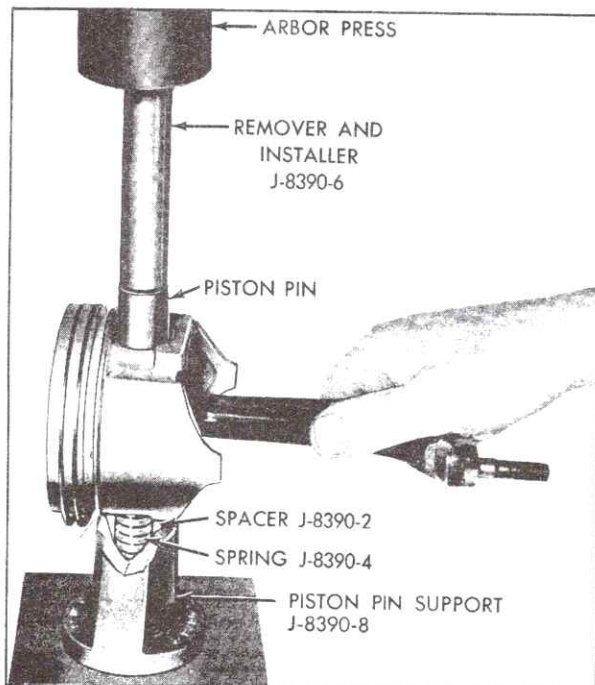

Fig. 6-142 Piston Pin Installation
with solid end over spring in position in Support, Fig. 6-142.
4. Position piston with connecting rod on Piston Pin Support, and insert piston pin into position as shown in Fig. 6-142.